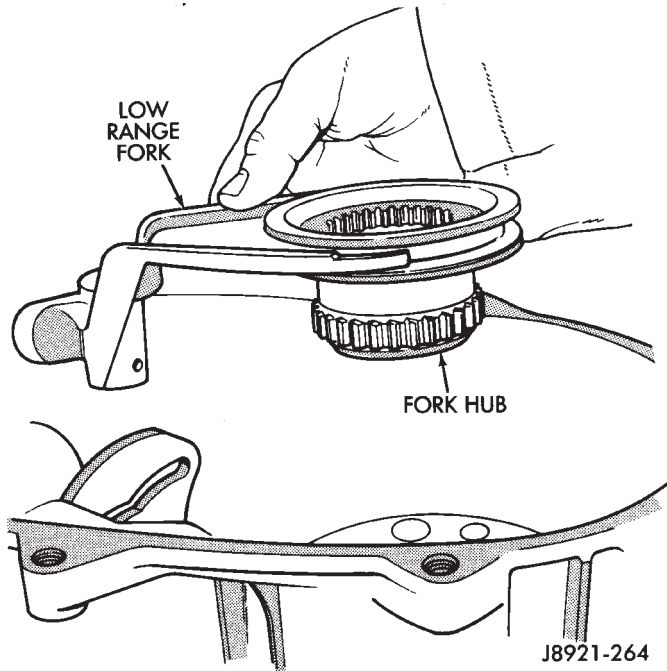

Fig. 35 Low Range Fork And Hub Removal
- (14) Remove low range fork and hub (Fig. 35).